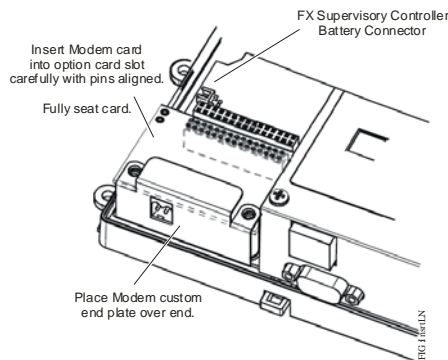

Figure 4: Inserting Modem Card
7. Place the custom end plate that came with the modem card over its connector (see Figure 4).
8. For the FX20/FX60/FX70 controller, plug the battery cable into the battery connector on the FX Supervisory Controller (see Figure 4 for location).